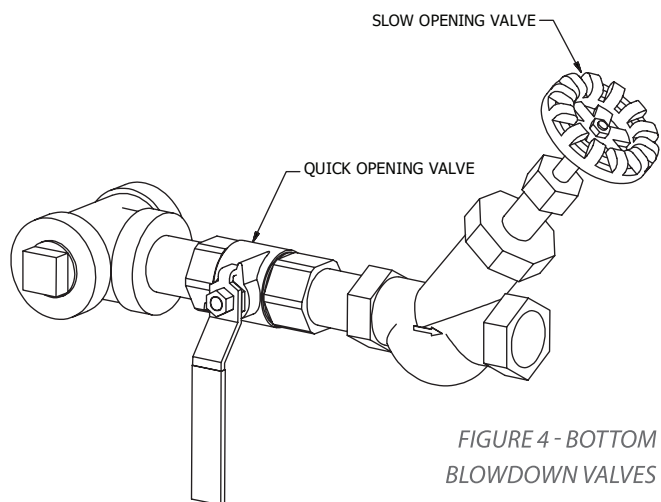

FIGURE 4 - BOTTOM BLOWDOWN VALVES
1. Blow down the boiler each morning by starting the boiler and generating not more than 10 PSI (.7 kg/cm²) of steam. Turn on cooling water to blowdown tank, if equipped, then open the boiler blowdown valve for approximately 10 seconds, then close valve. See Figure 4. Be sure that the slow opening valve (Y-Valve) is adjusted properly. The slow opening valve is to be adjusted so that only 1-2” of water empty from the boiler sight glass during the 4-10 second bottom blowdown. If a manual method of cooling water is used, be sure to shut off the cooling water supply. If there are two bottom blowdown connections on the boiler, both should be blown down daily.